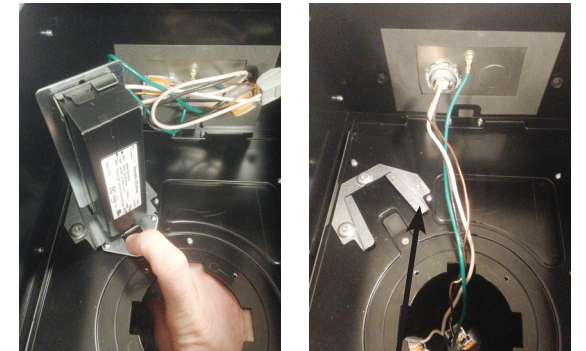

Fig. 12
1. If replacing from below the ceiling, remove adjustment or downlight module from fixture by loosening either (3) socket head screws (round fixtures) or (4) Phillips head screws (square fixtures). Screws must be gradually loosened in an alternating pattern to prevent binding of the module.
3. The driver assembly is held in place with a spring latch. Using one finger, depress latch and slide driver towards aperture until free (see Figure 12). Remove from fixture and disconnect electrical connections.
4. Make electrical connections with new driver assembly. Push wiring and driver through aperture. Align driver assembly with receiver bracket (see Figure 12). Push into receiver bracket until locked into place. Ensure wiring is arranged neatly by access plate.